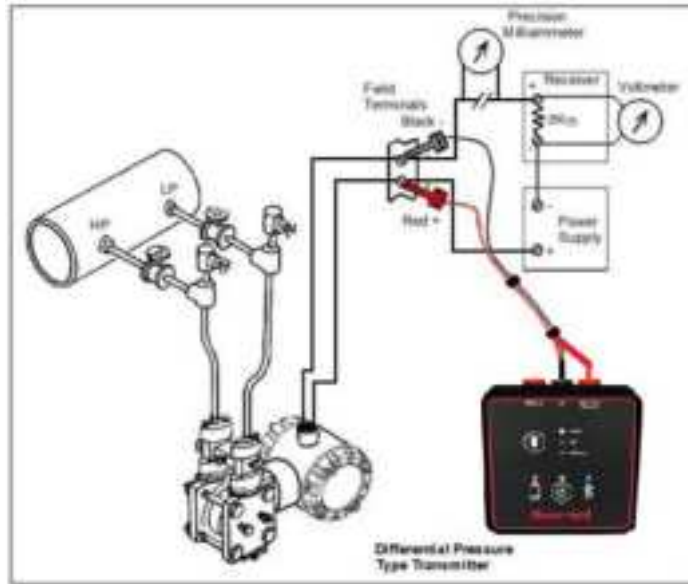

Figure 16 – ST 700 Standard Transmitter - Current Loop Test Connections
1. Refer to Figure 16 for test connections but using the HVC. Verify the integrity of electrical components in the output current loop.